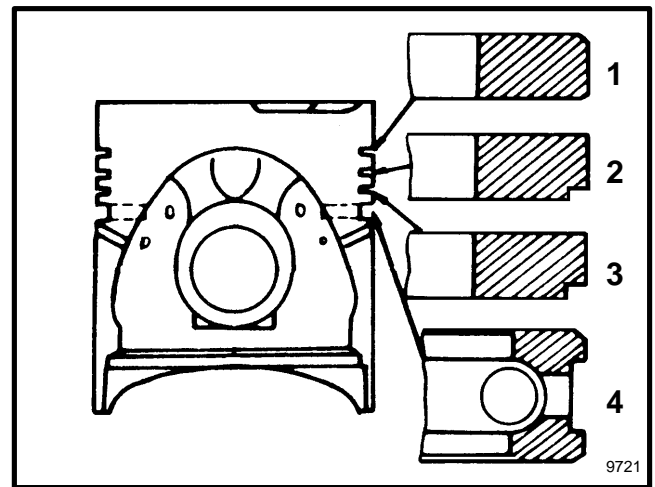

FIGURE 51. ASSEMBLY OF THE PISTON RINGS
2. Install the piston rings as shown in FIGURE 51. During installation, make sure that any identification marks on the piston rings are toward the top of the piston. Compression rings No. 2 and 3 are the same.